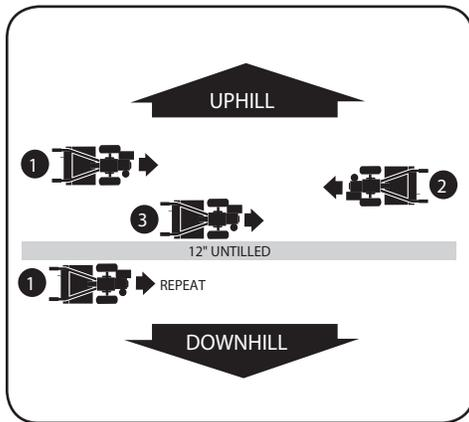

Figure 4-11
- To create a terrace, start at the top of the slope and work down. Go back and forth across the first row as shown in Figure 4-11.